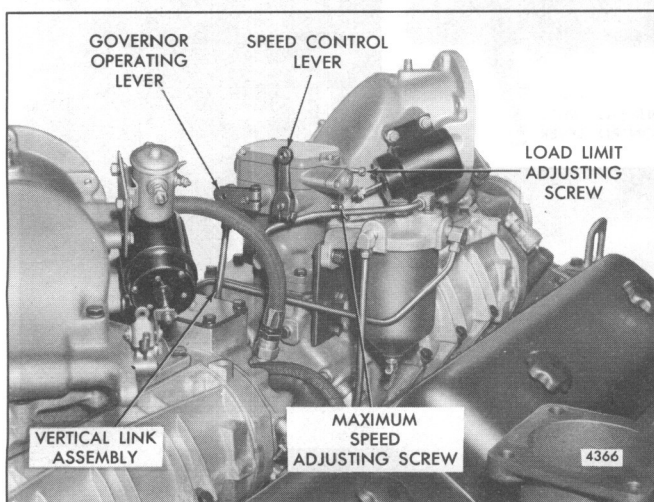
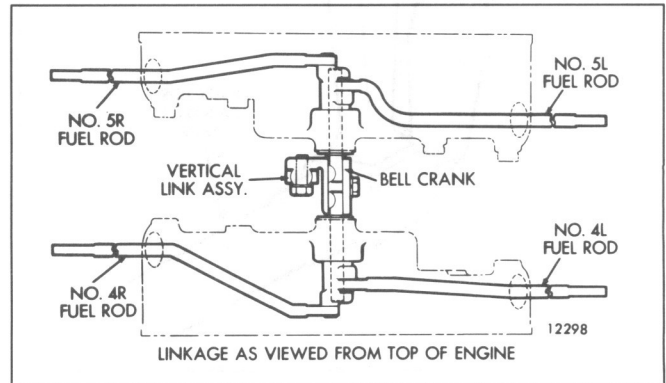

Fig. 1 - Hydraulic Governor Mounting
Fig. 2 - Governor to Injector Rack Control Linkage
The governor on the 12V and 16V engine is mounted on and driven from the front end of the rear blower (Fig. 1). The governor-to-injector control tube linkage is shown in Fig. 2.
3. Disconnect the vertical link assembly from the governor operating lever and the bell crank (Fig. 2).